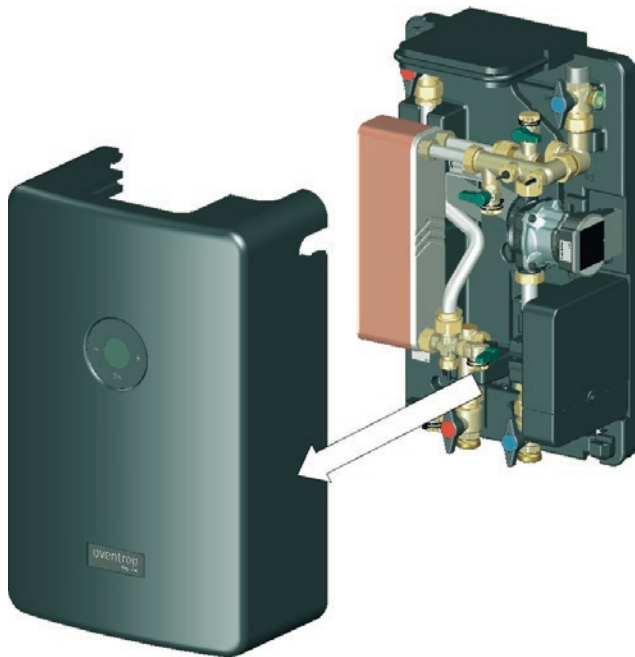

Fig. 12: Removal of the upper shell
- 2 Lift off the upper shell (see Fig. 12 on page 24).